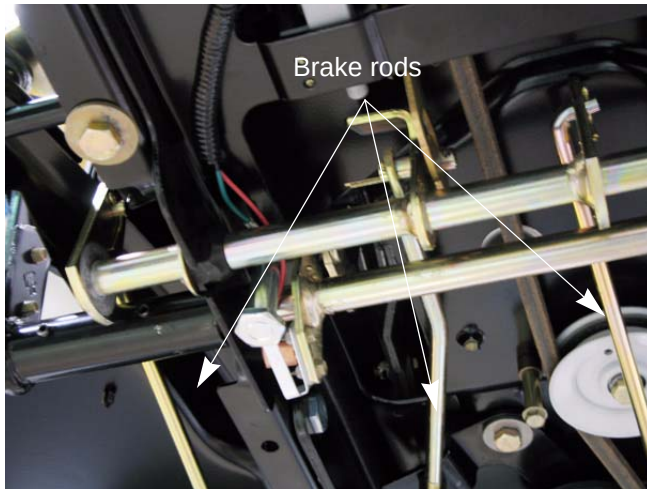

Figure 3.11
1. Remove the cotter pins that retain the three brake rods. Slide the brake rods out of the Brake shaft assembly. See Figure 3.11.